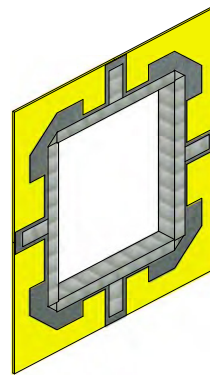

Figure 18
12. Repeat steps 6 – 10 on the head and jamb. (See Figure 18).